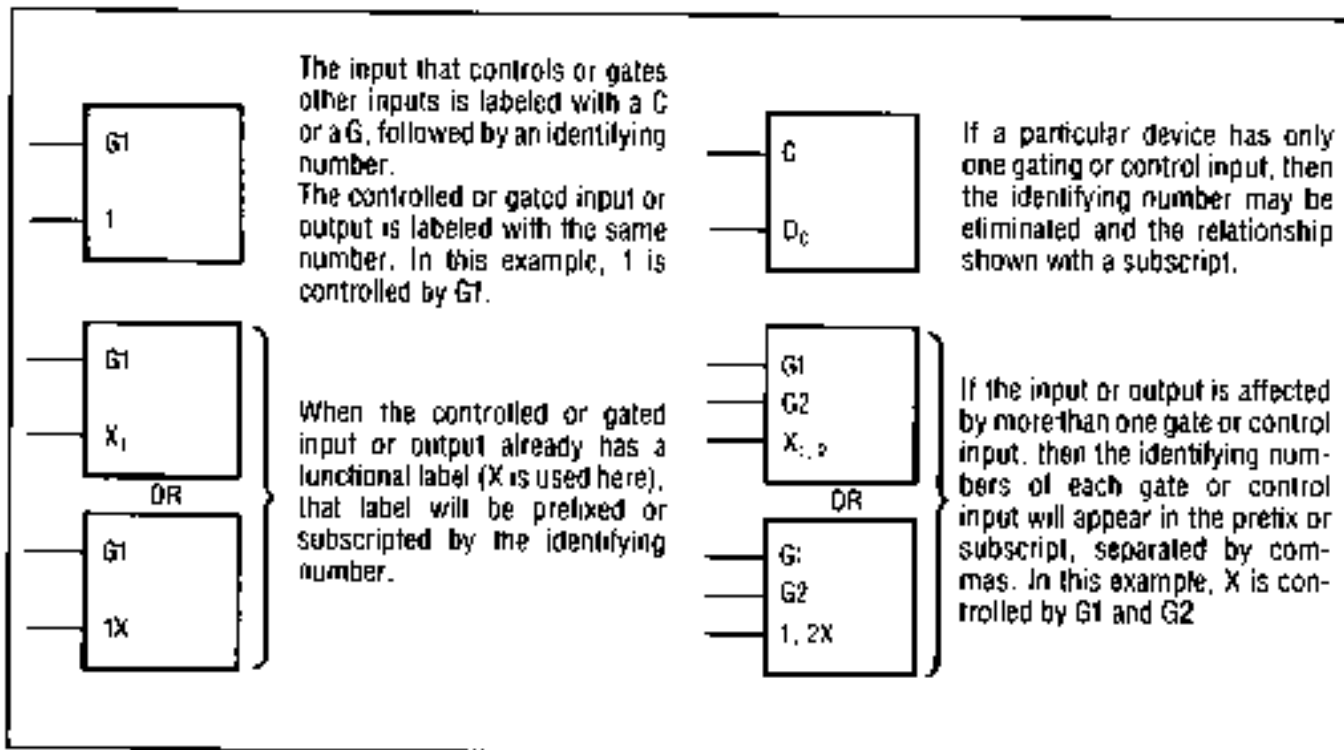

Figure 8-4. AND Dependency Notation
**Dependency Notation.** Dependency notation simplifies symbols for complex integrated circuit elements by defining the relationship between inputs and outputs without actually showing all the elements and connections involved (see Figures 8-4 through 8-6). The following examples use the letter A for address, C for control, G for AND, V for OR, and F for free dependencies. The dependent input or output is labeled with a number that is either prefixed (e.g., 1X) or subscripted (e.g., X1). They both mean the same thing. Note that many times a controlled line may already be labeled with a number that indicates input or output weighting (for example, in a coder). In this case, the controlling or gating input will be labeled with a letter.